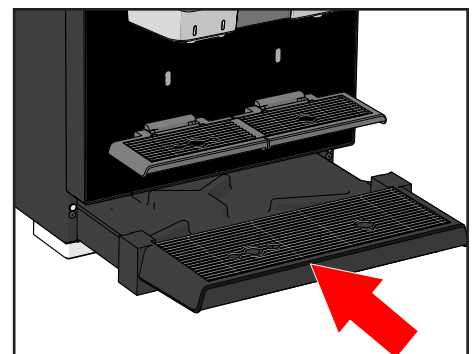

Figure 24.
- Replace the grid in the drip tray and place the drip tray back in the machine (see Figure 24) and confirm that it has been emptied on the screen.
15. Replace the drip tray with the grid (see Figure 24).